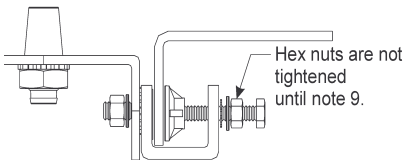

Figure 8. Mounting Location
10. Install antenna to Air Dam Shield of truck, See Figure 8.